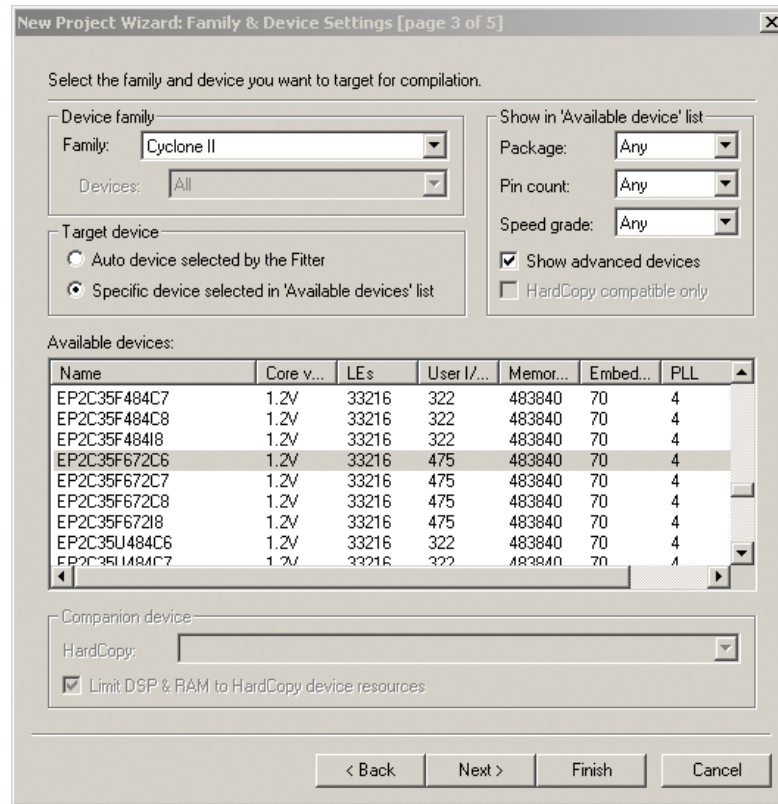

Figure 19 The New Project Wizard screen (3 of 5).
5. The third wizard screen is shown in Figure 19. This screen will allow us to specify the actual FPGA that we will target for our design. In the drop-down box for the **Family**, select Cyclone II. Place a check in the box for **Specific device**. Highlight the *EP2C35F672C6* and press **Next**.